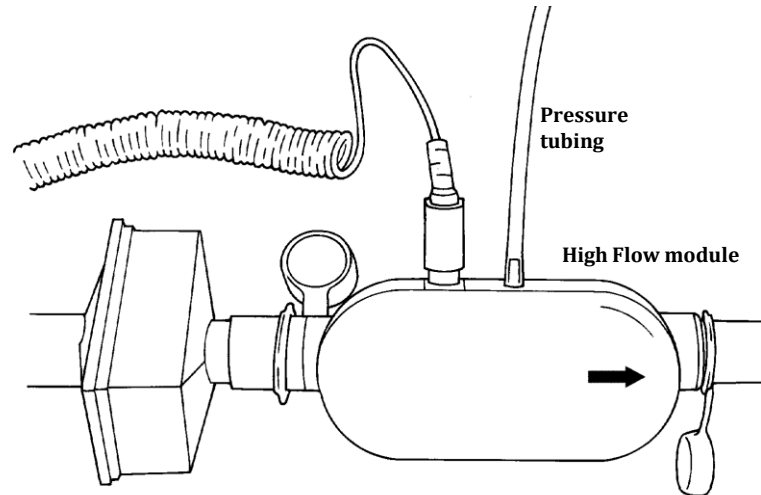

Figure 5. Attaching Pressure Tubing to the High Flow Module
- High Flow module only: install pressure tubing (Figure 5).